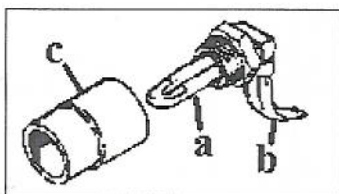

Figure 1.
3. Clean the port in the engine block. Install the adapter bushing (Figure 1) into the block by lightly tapping with a plastic mallet. Make sure the adapter bushing is not crooked when tapping it into the engine block. Loctite should be used to help seal the adapter bushing into the block heater.
5. Apply sealing tape (Plumber/Teflon tape) to the heating element (Figure 1) threads and screw it into the bushing.
6. Install the electrical cord (Figure 1). Make sure the cord is away from all hot surfaces and moving parts.